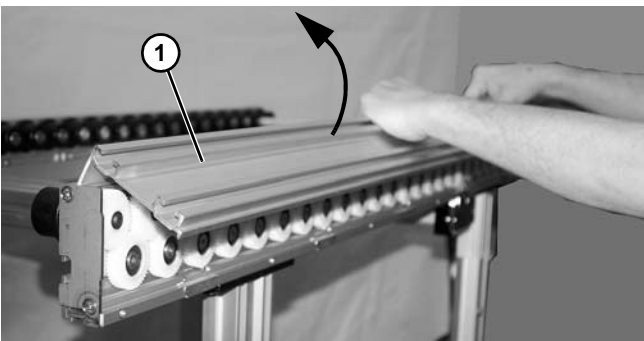

Figure 162
2. Rotate and remove side cover (**Figure 162, item 1**) from conveyor frame